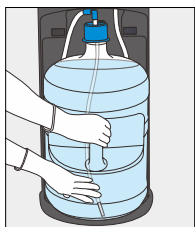
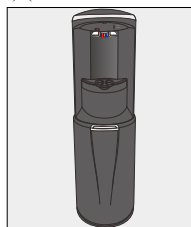

Figure 22
Figure 24
9. Slide bottle into cabinet and close the door (Figure 22 to Figure 24) (slide door downwards to close)